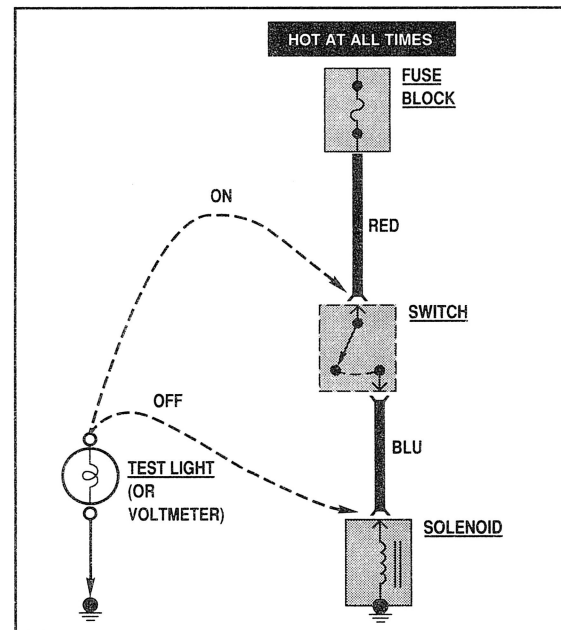

Figure 7 - Voltage Check
2. Connect the other lead of the test light or voltmeter to a selected test point (connector or terminal) where you would expect battery voltage (Figure 7).